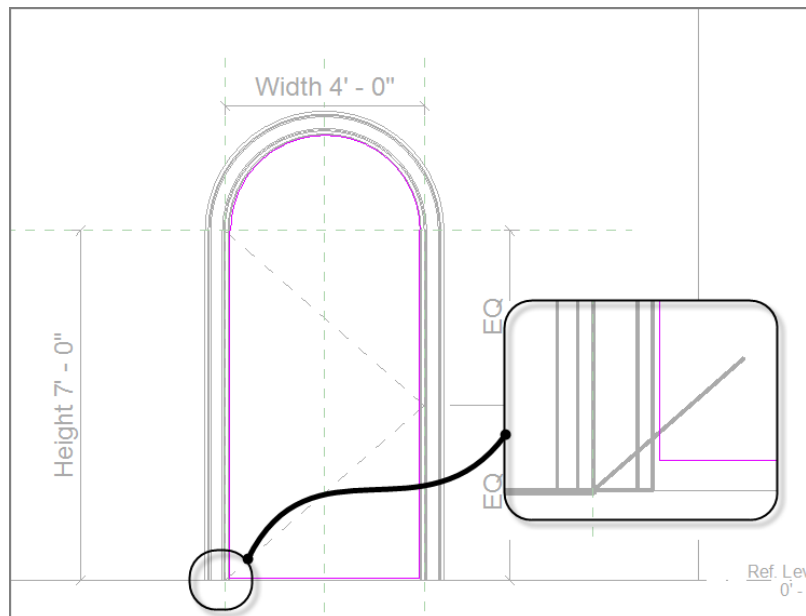

FIGURE 17.23: Adding the door
8. Offset the bottom up (see Figure 17.23).